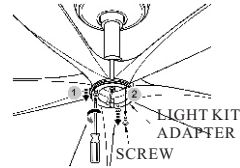

FIG.15
3. Remove 1 of 3 screws on light kit adapter and loosen the other 2 screws.(see fig.15)